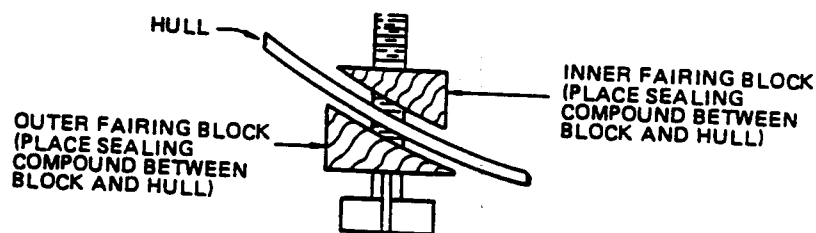

Fig. 3.6
4. Following the manufacturers directions for application, apply a $\frac{1}{8}$ " thick layer of sealant on the upper flat surface of the bronze housing and fairing block if used (Figure 3.6). A thin layer should also be applied up the sidewalls to a height of $\frac{1}{4}$ " greater than the hull and shim thickness. This will ensure there is sealant material in the threads to seal them and hold the housing nut securely in place.